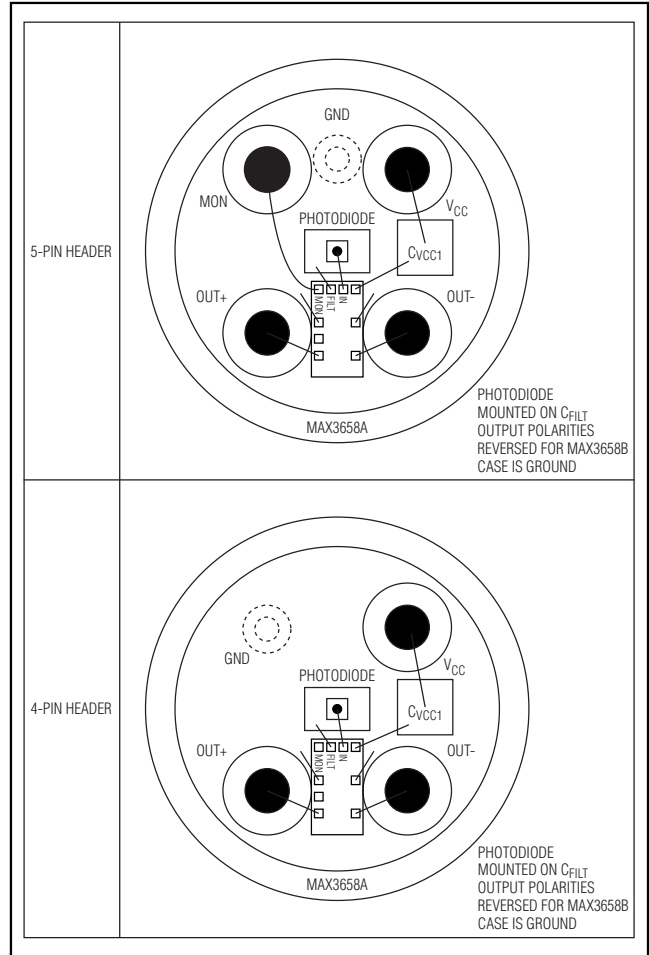

Figure 3. Suggested TO Header Layouts
Figure 3 shows suggested layouts for 4- and 5-pin TO headers.
- Rev 2; 11/05: Changed TO layout in Figure 3 (page 8).